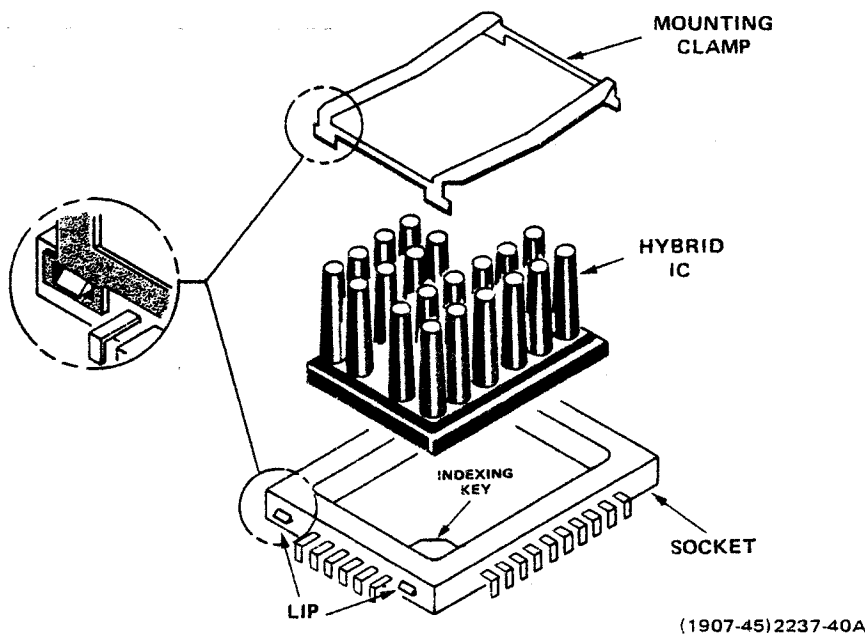

Figure 5-12. Hybrid IC removal.
(1) Remove the horizontal module.
(2) Remove the crt.
(3) Unplug the Graticule Illumination Board connector (beside the Graticule illumination potentiometer), and remove the board.
(4) Reinstall the board in reverse order.
q. Hybrid IC Removal and Replacement (Figure 5-12).